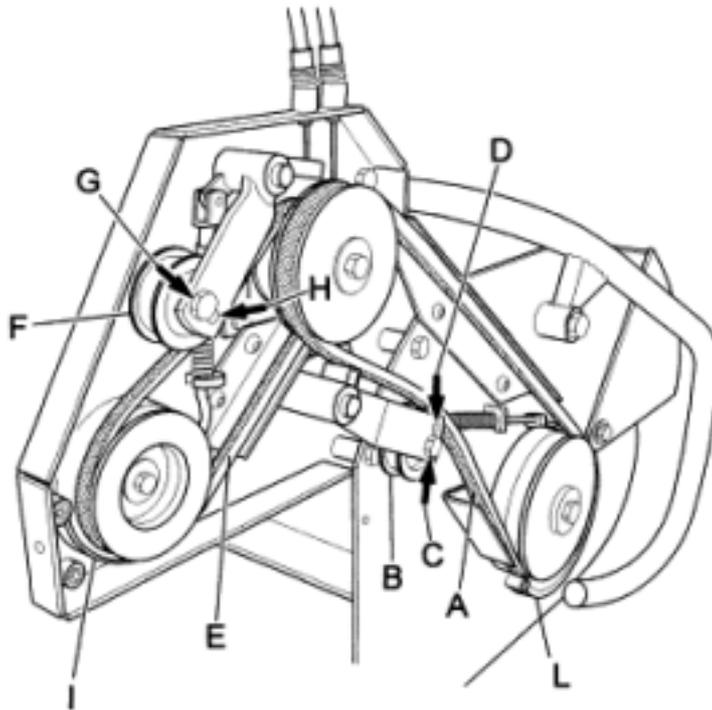

Fig. 9
- If the belt ( fig. 9 ref. A) is slack and therefore unable to ensure proper drive to the flail rotor, move the tightener ( fig. 9, ref. B) from the lower hole ( hole C ) to the upper hole ( hole D).
- If the belt ( fig. 9 ref. E) is slack and therefore unable to ensure proper drive to the machine forward pulley, move the tightener ( fig. 9, ref. F) from the upper hole ( hole G) to the lower hole ( hole H).
**WARNING.** After having made the above adjustments check that the flail rotor brake (fig.9, ref.L) and service brake ( fig. 9, rif.I) work properly, stopping roller movement and machine movement respectively.